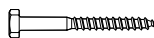

fig. 4
- 4 Reposition the Wall Bracket, and with four lag bolts (fig. 4), secure into place. Tighten with 13mm or 1/2" socket wrench. (fig. 5)